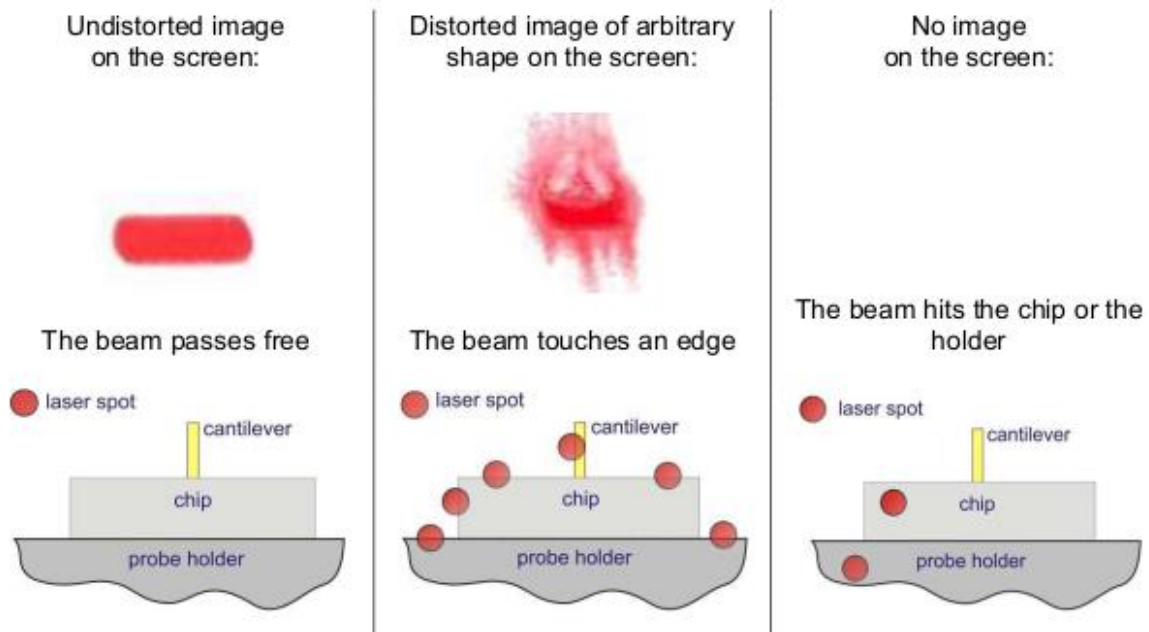

Figure 9: Interpreting laser spot based on position of the probe
- The laser spot will change depending what is in the laser path this is demonstrated in Figure 9.